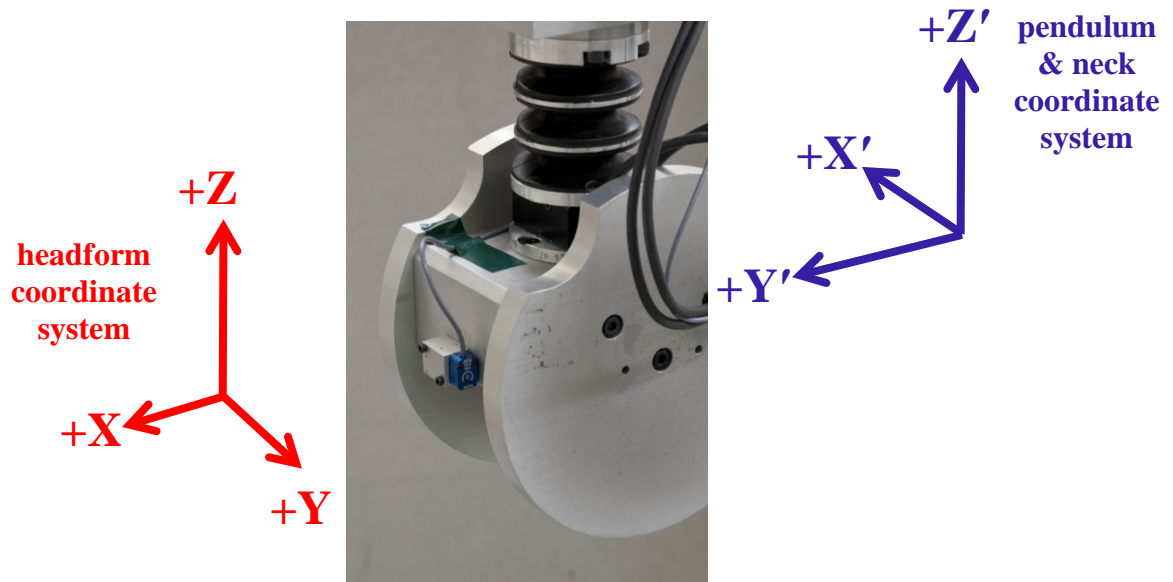

Figure 41. Attach headform to upper neck load cell for right lateral flexion tests
- Attach the headform and upper neck load cell to the neck with four M5 x 10 SHCS (Figure 41). The load cell wiring should protrude from the left side of the headform when facing the impact surface.